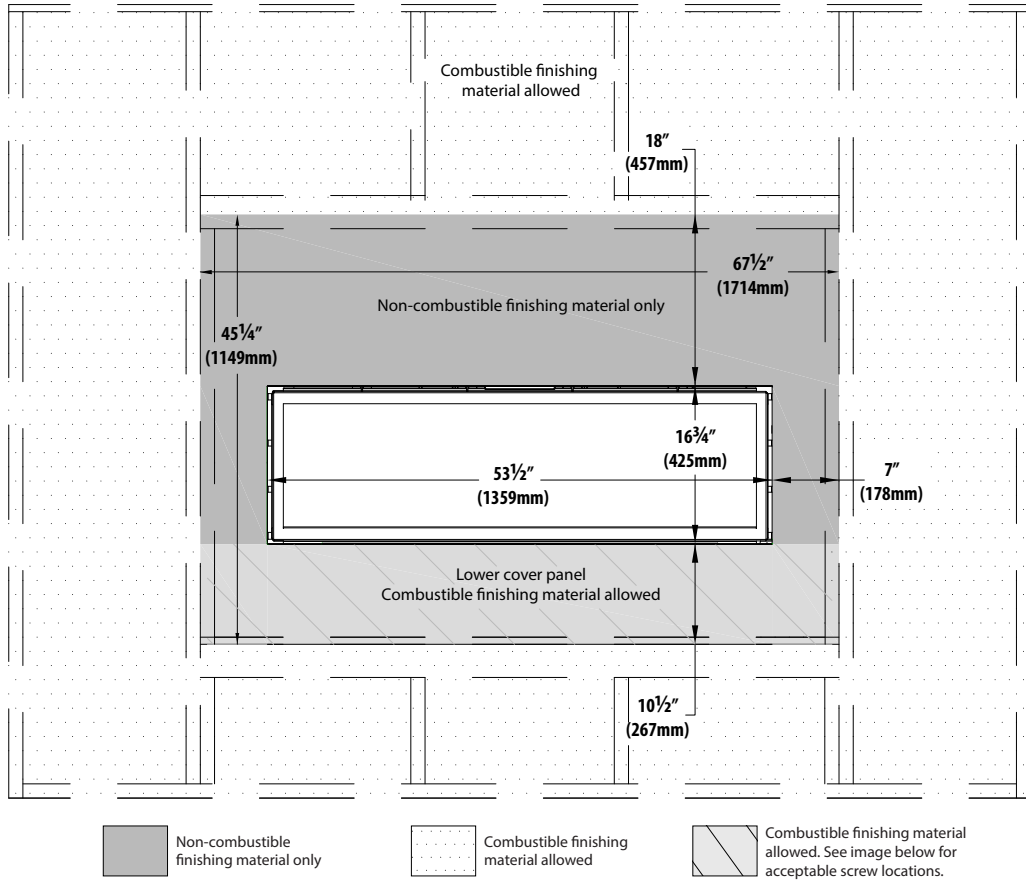
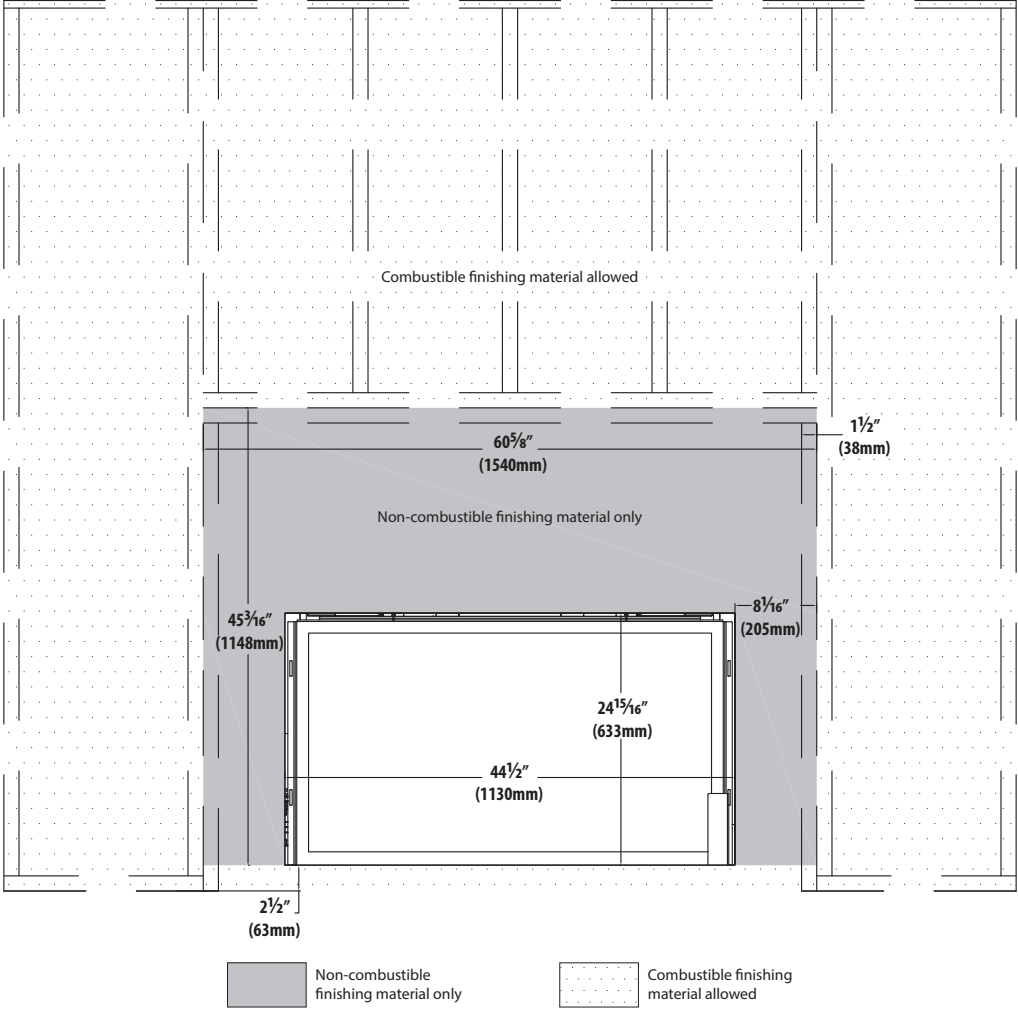
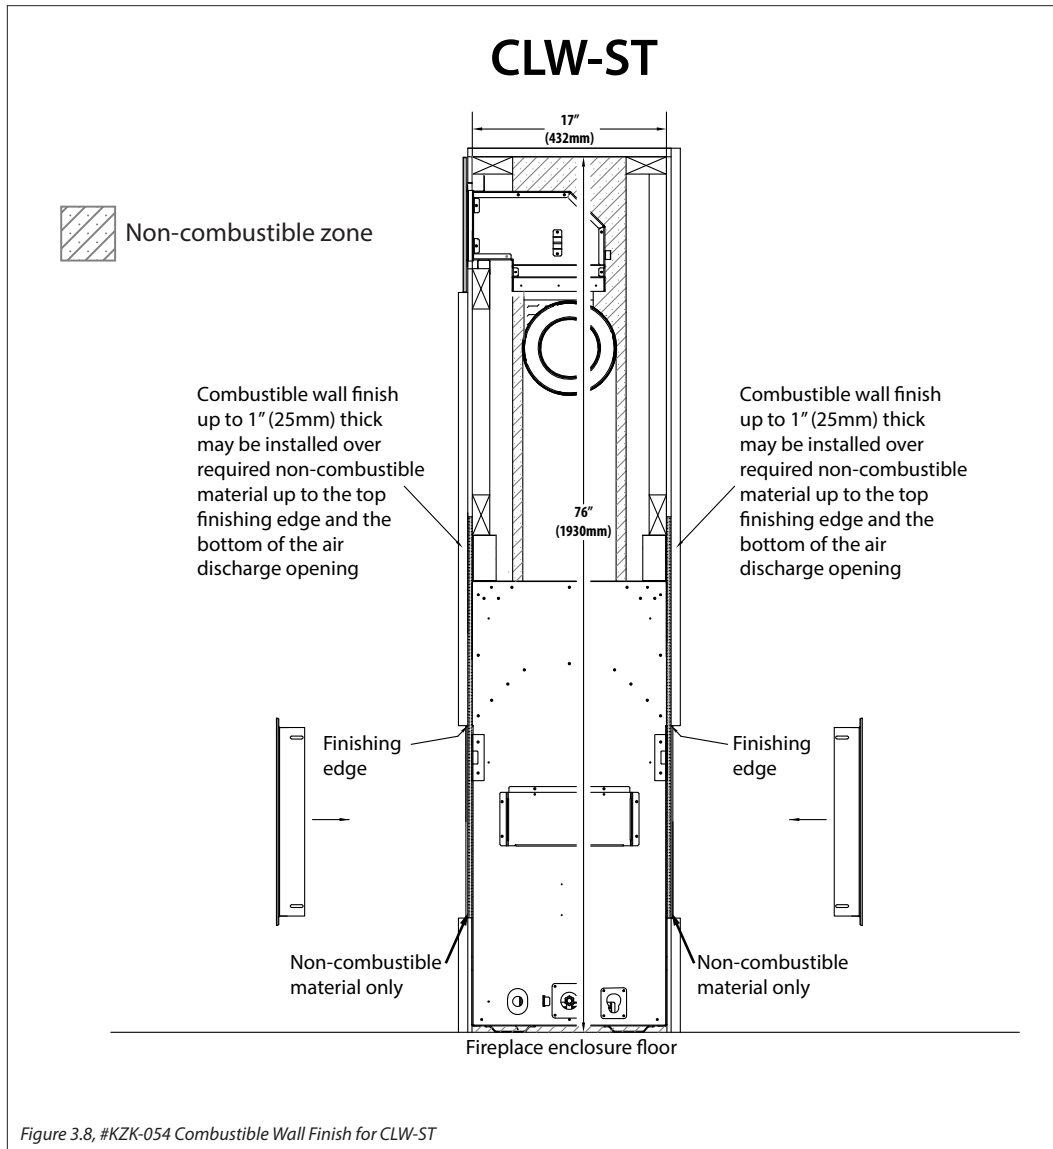

Figure 3.3, CLW-ST Minimum Non-combustible Finishing Dimensions
Figure 3.5, BHM-44 Minimum Non-combustible Finishing Dimensions
Figure 3.8, #KZK-054 Combustible Wall Finish for CLW-ST
1" (25mm) combustible material goes on top of any required non-combustible material required on the fireplace as shown in Figures 3.1 and 3.2 on page 17 for CLW-50, Figures 3.3 and 3.4 on page 18 for CLW-ST, and Figure 3.5 on page 19 for BHM-44.
- Figure 3.8 shows installation of combustible wall finish up to 1" thick. This combustible material goes over any required non-combustible materials as shown in Figure 3.3 on page 18.
- Figure 3.9 shows installation of combustible wall finish up to 1" thick. This combustible material goes over any required non-combustible materials as shown in Figure 3.5 on page 19.